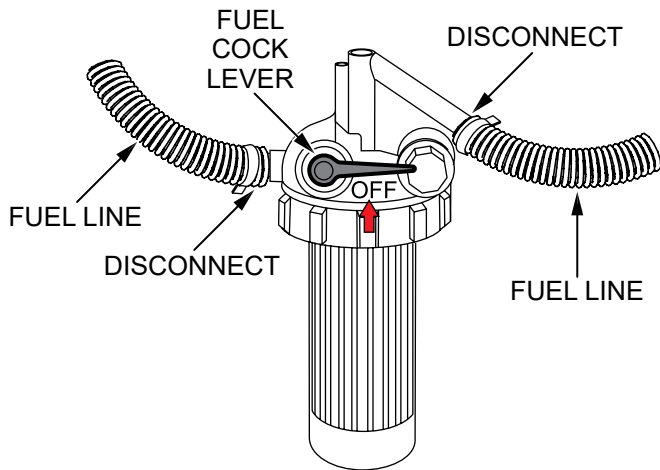

Figure 46. Fuel Cock Lever (OFF)
1. Place the **fuel cock lever** (Figure 46) in the **OFF** (closed) position.
2. Disconnect the **fuel lines** (Figure 46) from the fuel filter.